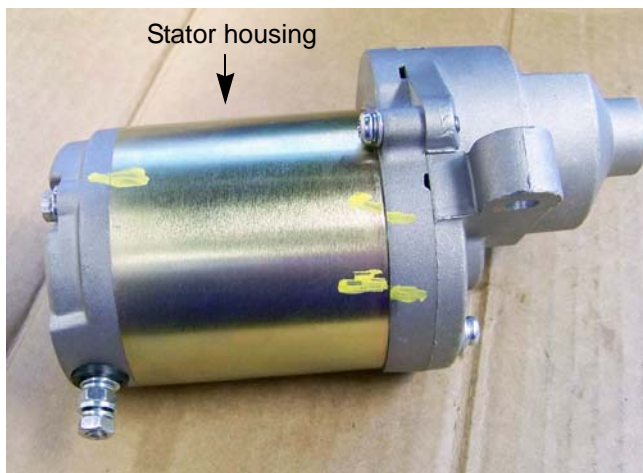

Figure 6.5
3. Put an alignment mark on the end cap and the stator housing. See Figure 6.5.